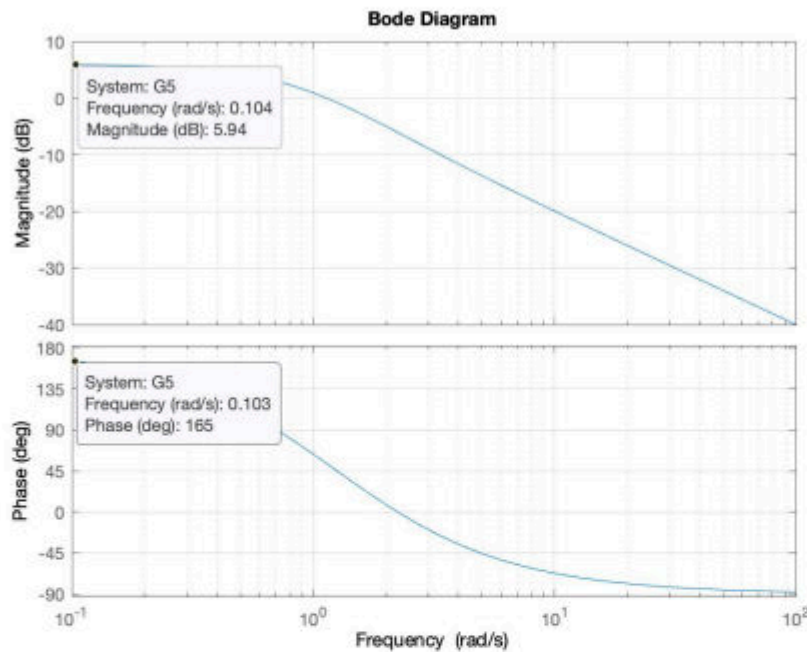

Figure 2: Bode Plot Diagrams - Q5
5. Q5. The Bode plot diagrams of the magnitude and phase of a transfer function $G(s)$ of a linear system is shown in Fig. 2.